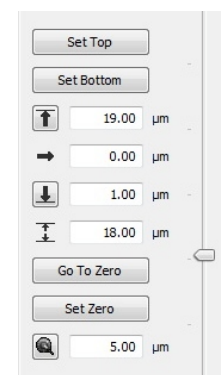

Fig 8
2. click on the **Leica focus control** button (highlighted in Fig 7) to open control window (Fig 8); slider arrow on the right can be used to control Z position